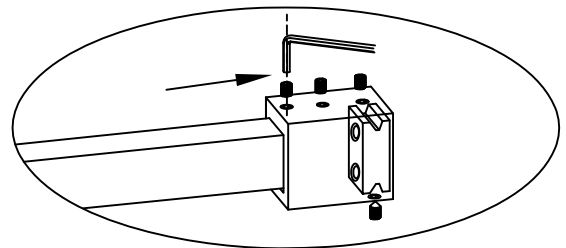

Fig. 19
19. Slide the Rail End (5) over the Wall Mount (6) and secure using the set screws. See Fig.19 for details.